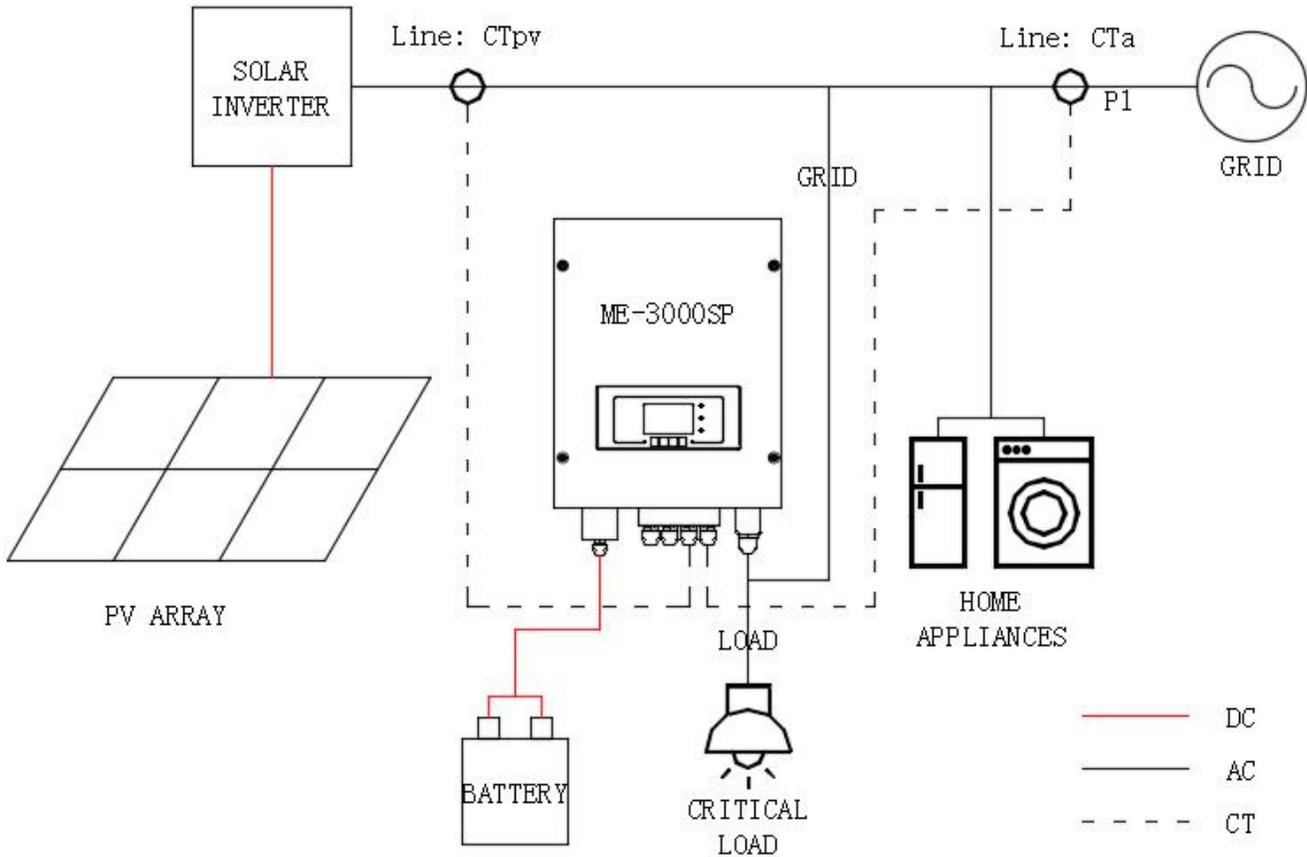

Fig. 6 Schematic Diagram (ME-3000SP: energy storage add-on to existing renewable system)
Step 2: Loosen 4 screws (part A) using a screwdriver (fig. 6)